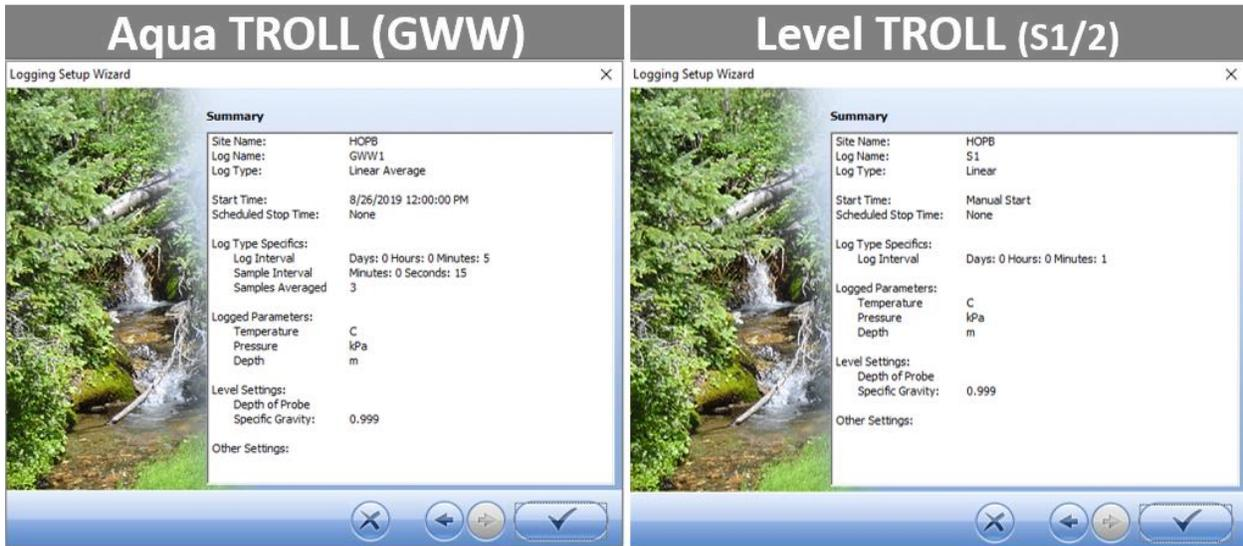

Figure 18. Logging Configuration Summary Examples
10. Confirm the logging configuration settings by reviewing the final Summary. **Figure 18** provides an example summary for an Aqua TROLL in a GWW and a Level TROLL at a stream site. Click the “**V**” to continue.